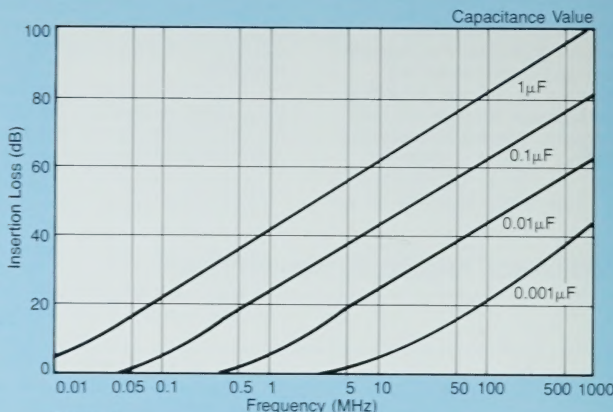

Figure 3.
3. Adding capacitance or inductance does not change the slope of insertion loss but increases or decreases the cutoff frequency. (See Figure 3.)